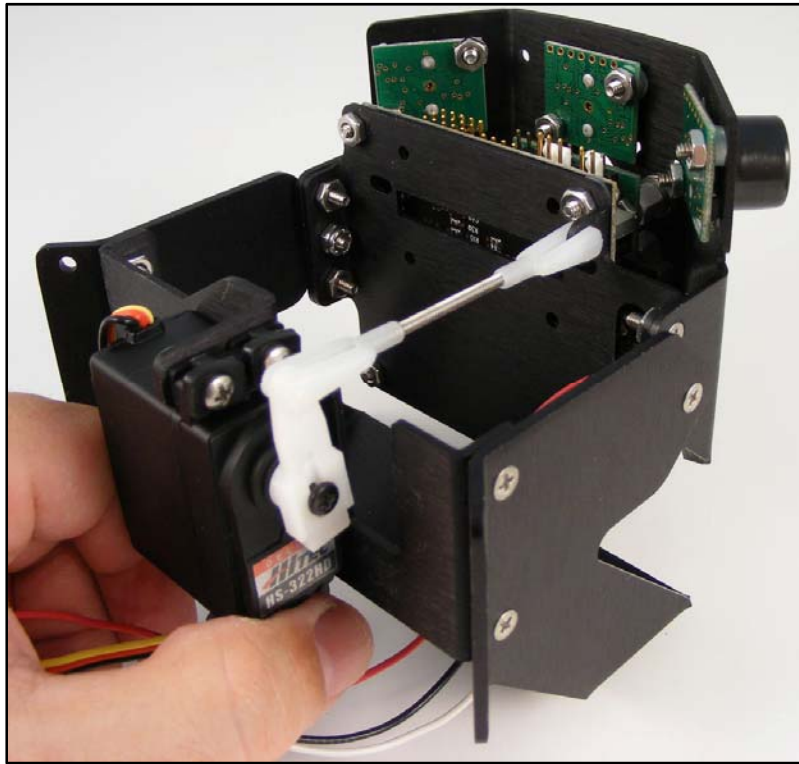

Figure 34
- 19.) Attach an adjustable servo arm to the pivot servo (found in parts bag that came with servo), and attach the other end of the pivot linkage to the outermost hole in the arm as shown in Figure 34 and 35.